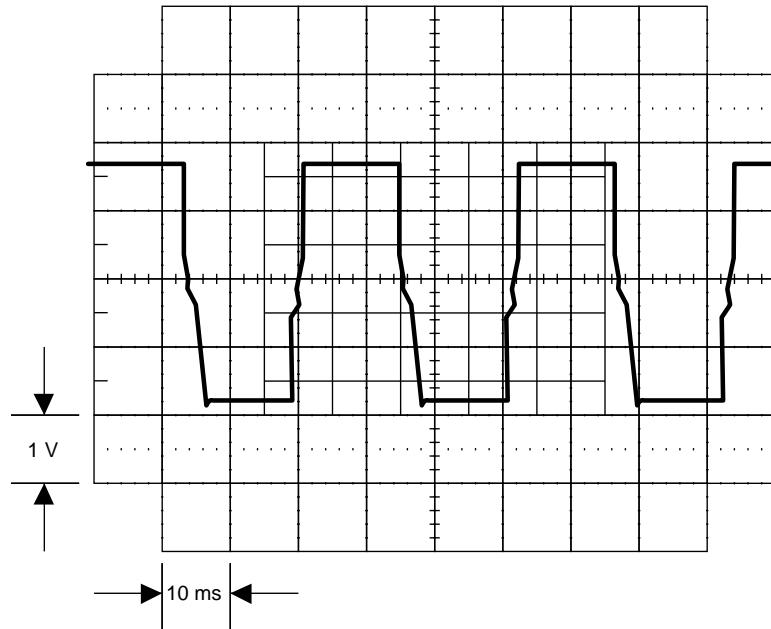

Figure 5-16. Waveform at Pin 13 of U6
1. Check the +8A and -8A power supply for the two-wire comp. circuit. Set the 5700A to 100Ω , operate, and turn the two-wire comp on. Using a DMM measure the dc voltage at TP8 (common to TP7) and verify it is $+8.2V \pm 5\%$. Next, measure the dc voltage at TP9 (common to TP7) and verify it is $-8.2V \pm 5\%$. If these supply voltages are correct skip to step 2. If a failure is detected, first connect an oscilloscope to pin 16 of U6 with the scope common connected to pin 13 of U6. Set the oscilloscope to 5V/div at 10 us/div and verify it displays a waveform similar the Figure 5-16. If a failure is detected, check U6, Q5, Q6, Control line PB7, and associated components. If this signal is correct then check T1, CR1, CR2, CR9, CR10, VR1, VR2, and associated components.